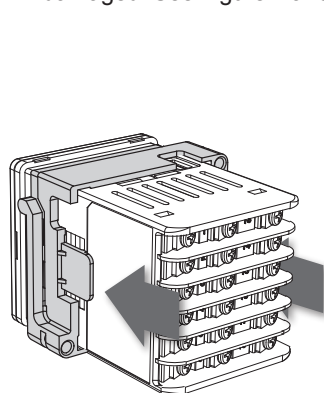

Figure 1. PD510 Mounting Bracket Installation
- Install mounting bracket(s) and tighten the screws against the panel. To achieve a proper seal, tighten the mounting bracket screws evenly until controller is snug to the panel. DO NOT OVER TIGHTEN, as the rear of the panel may be damaged. See Figure 1 and Figure 2.